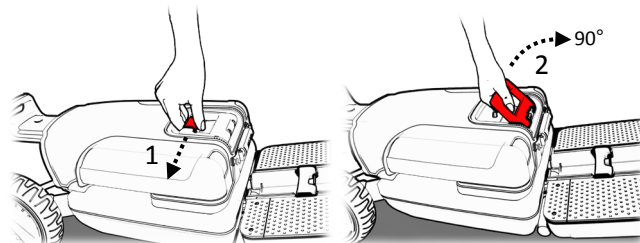

Figure 13
10. Place one hand on the tiller and with the other hand release the secure lever of the back handle (1), bring the handle to an upright position of 90 degrees (2) (see Figure 13).